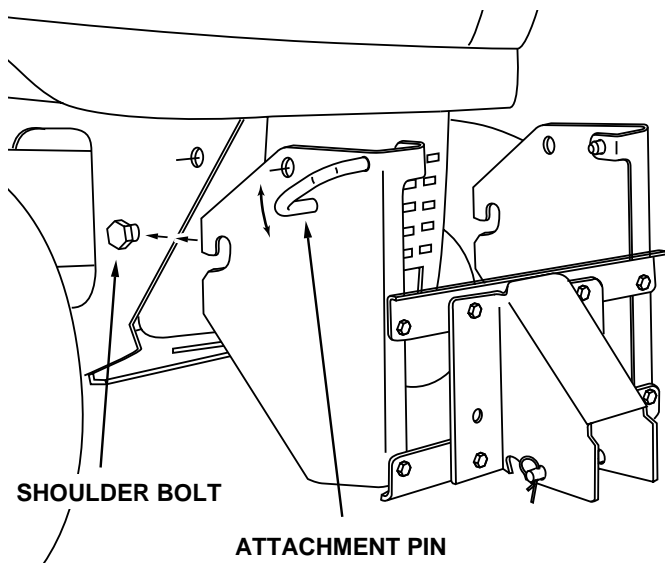

Figure 1
1. To attach the hitch assembly to the front of the tractor, pull out on the attachment pins and swing the pins down clear of the holes they were in. See figure 1.
2. Hook the notches in the sides of the hitch assembly onto the shoulder bolts in the sides of the tractor frame. See figure 1.
3. To lock the hitch assembly in place, insert the attachment pins back into the holes in the hitch assembly and into the holes in the sides of the tractor frame. See figure 1.